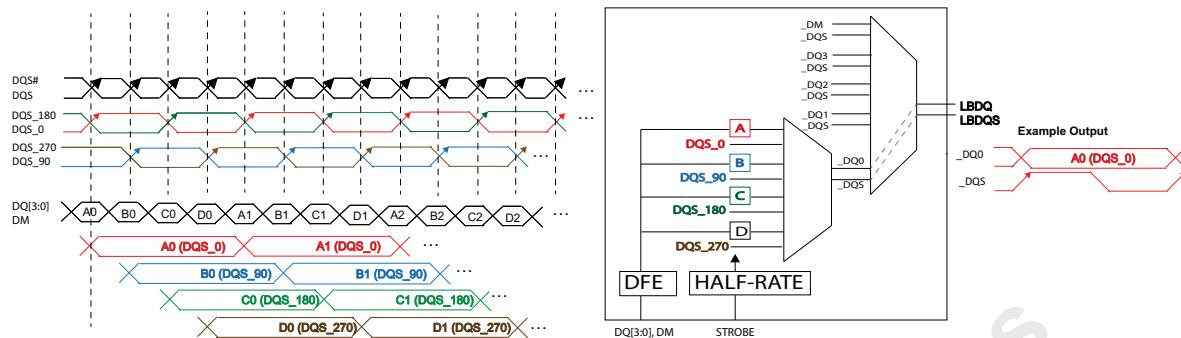

Figure 163 — Example of 4-Way Interleave Loopback Circuit on an x4 SDRAM
**Figure 163** shows an example of a Loopback implementation for 4-way interleave x4 DRAM. This example requires a divided clock to produce DQS\_0, DQS\_90, DQS\_180 and DQS\_270. Phase A through D refers to the 4-bit naturally aligned bits in a data stream. The output of the DQ slicer runs at 1/4 the speed as received data. In a 4-way interleave design, the data is received at full speed, but internally the data is latched only at quarter speed. For example, if the input bit stream consists of A, B, C, D, then the multiplexer input "A" receives data bit A and strobe DQS\_0; multiplexer input "B" receives data bit B and strobe DQS\_90; multiplexer input "C" receives data bit C and strobe DQS\_180; and multiplexer input "D" receives data bit D and DQS\_270.